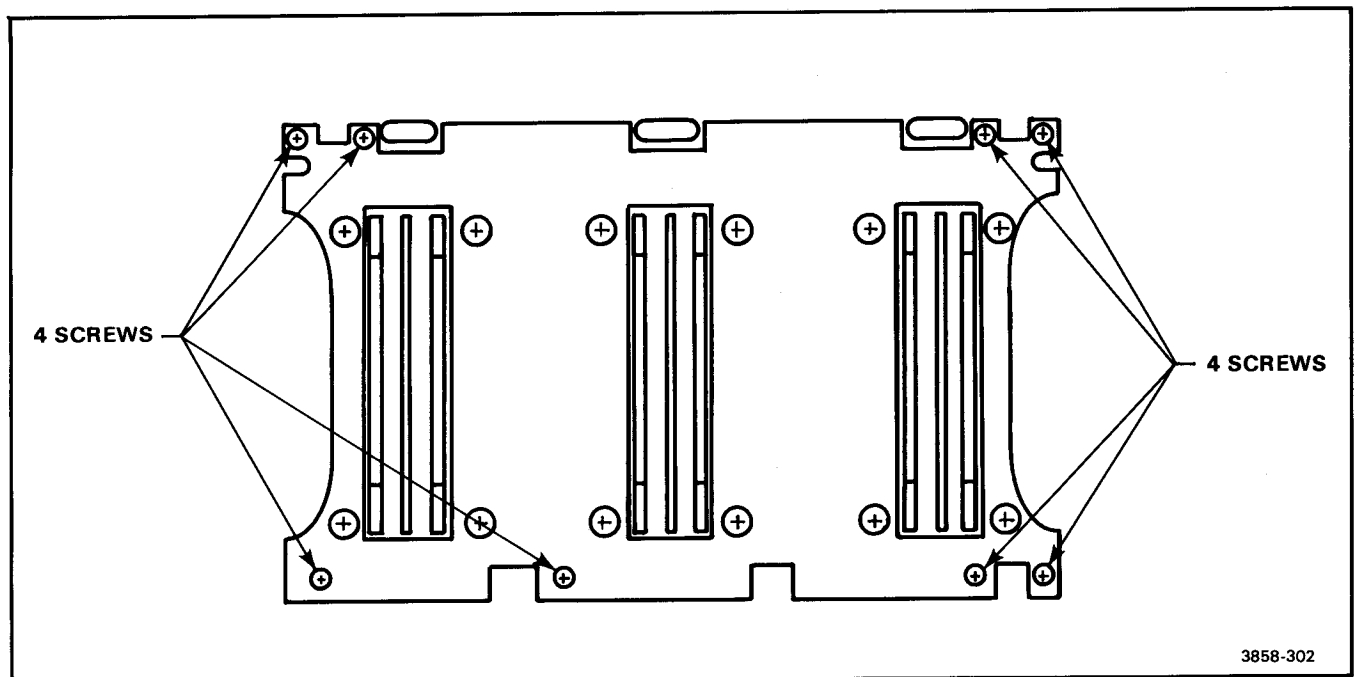

Figure 3-6. Back-panel removal.
2. Using a #2 Phillips screwdriver, remove the eight fillister-head screws that secure the back panel to the four frame rails. See Figure 3-6.